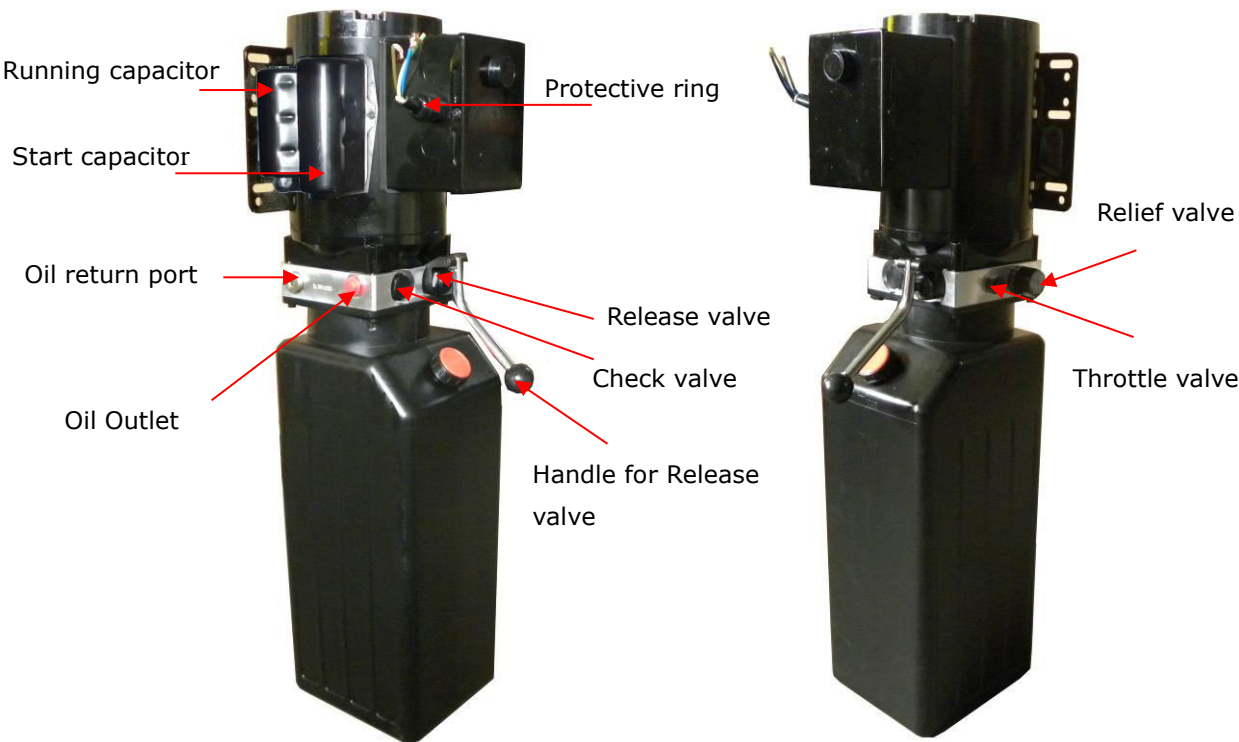

Fig. 38
b. PEAK manual power unit 220V (See Fig. 38)